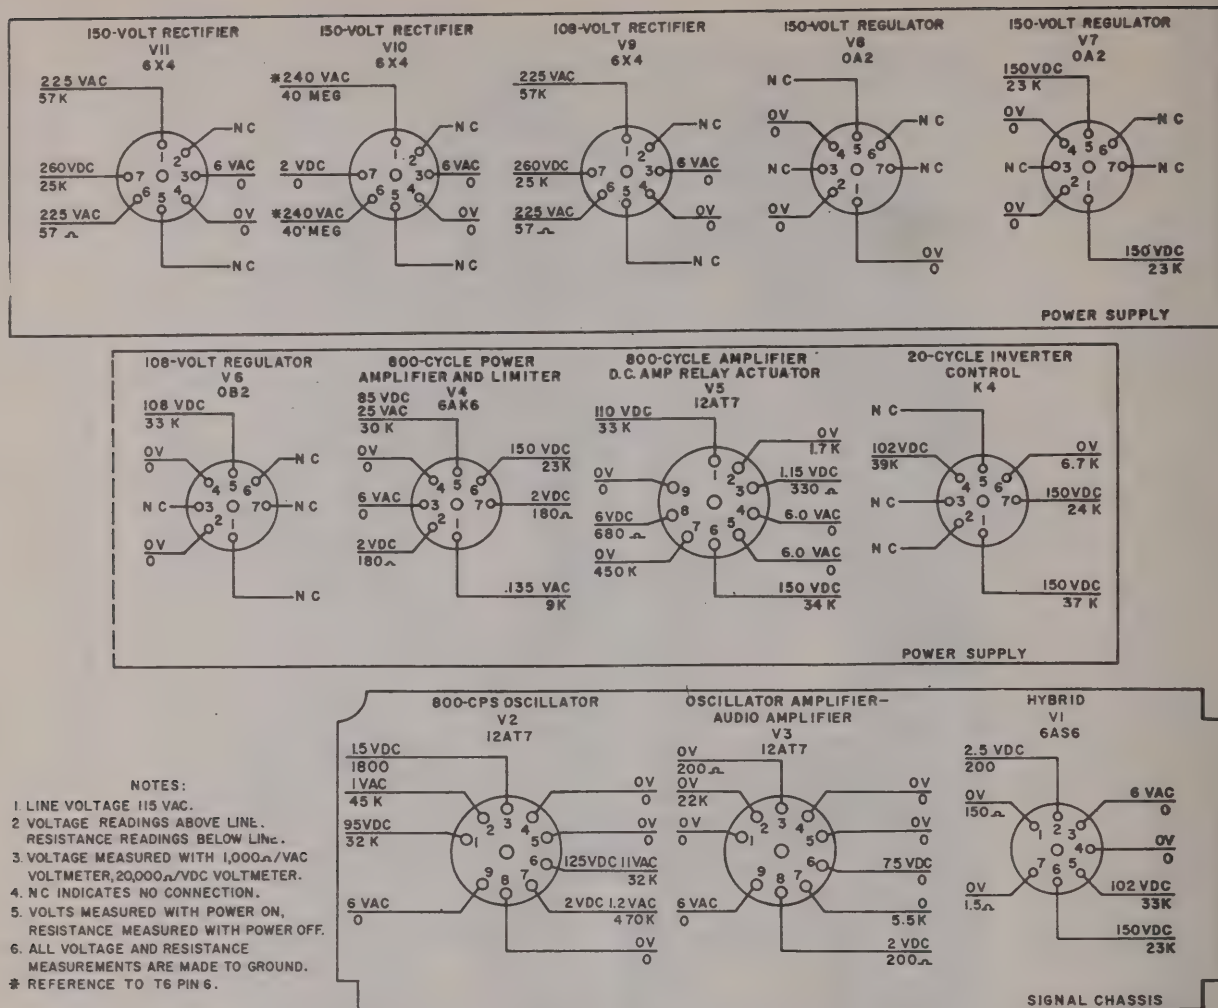

Figure 48. Telephone Signal Converter CV-542/TRC-47, tube socket, voltage and resistance diagram.
c. Take voltage measurements at the tube sockets (fig. 48) and other points related to the stage in question such as test points.
d. If voltage readings are abnormal, take resistance readings (fig. 48) to isolate open or short circuits. Refer also to the dc resistances of transformers and coils (par. 61).